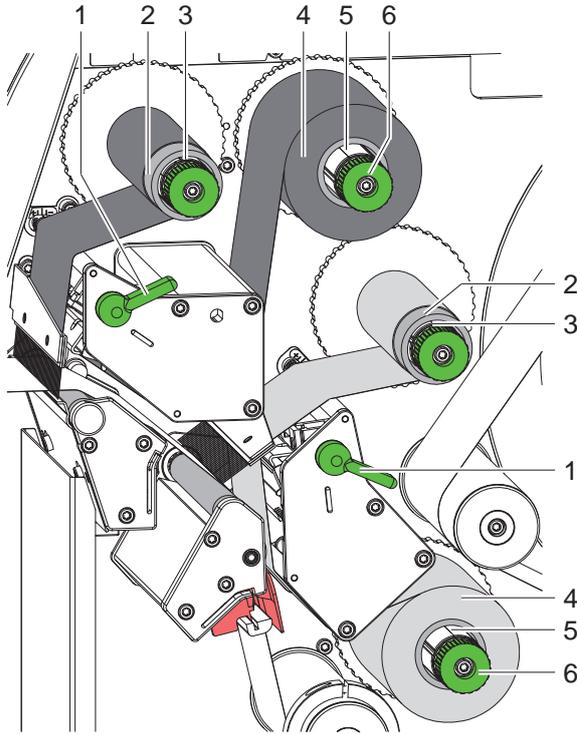

Fig. 14 Loading transfer ribbon
2. Turn lever (1) counterclockwise to open the printhead.
3. Slide transfer ribbon roll (4) onto the ribbon supply hub (5) until it stops and so that the color coating of the ribbon faces away from the printhead after loading.
4. Hold ribbon supply hub (5) firmly and turn knob (6) counterclockwise until the transfer ribbon roll is secured.
5. Slide suitable ribbon core (2) onto the transfer ribbon take-up hub (3) and secure it in the same way.
6. Guide transfer ribbon through the print unit as shown in the figure 14. The broken line shows the path for ribbon with inkside out.
7. Secure starting end of transfer ribbon to the transfer ribbon core (2) with adhesive tape. Ensure counterclockwise rotation direction of the transfer ribbon take-up hub here.
8. Turn transfer ribbon take-up hub (3) counterclockwise to smooth out the feed path of the transfer ribbon.
9. Turn lever (1) clockwise to close the printhead.